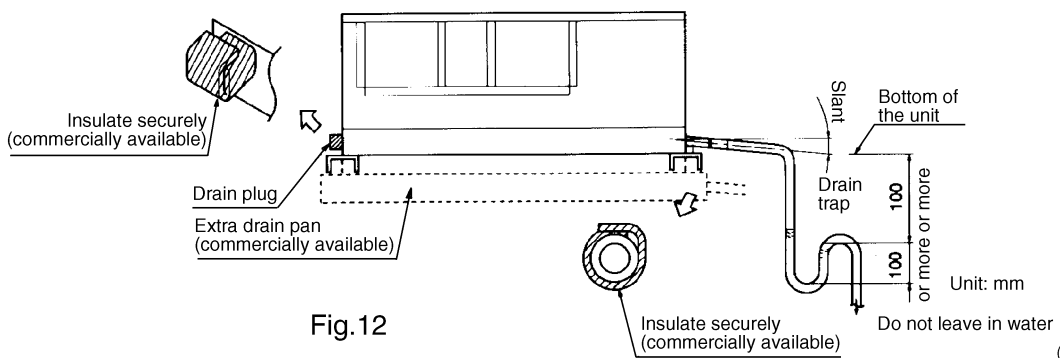

Fig. 12
- Assemble the unit as shown in Fig. 12.
- For best results, try to keep the piping as short as possible. Slant the piping at an angle to improve flow (the drain pipe provided with the indoor unit has a PS 1B internal thread). See Fig. 12.
- After closing the drain pipe on the opposite side of the unit, completely wrap the drain pipes with insulation (see Fig. 12).